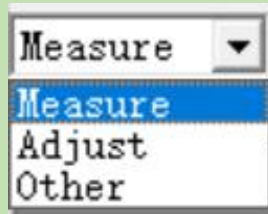

Figure 3-12
18.Measurement parts: You can select the category of the size chart here. (Figure3-12)